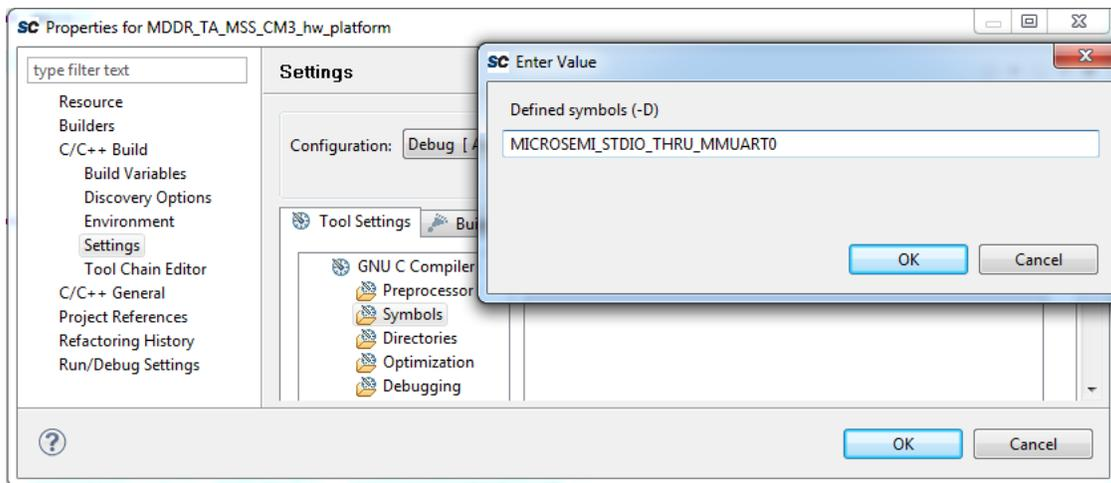

Figure 35 • MICROSEMI\_STUDIO\_THRU\_MMUART0 Symbol Settings
- Initializing and configuring the MMUART\_0 with 115200 baud rate, 8 data bits, 1 stop bit, no parity, and no flow control. This is done by adding MICROSEMI\_STUDIO\_THRU\_MMUART0 symbol in the project settings, as shown in Figure 35.